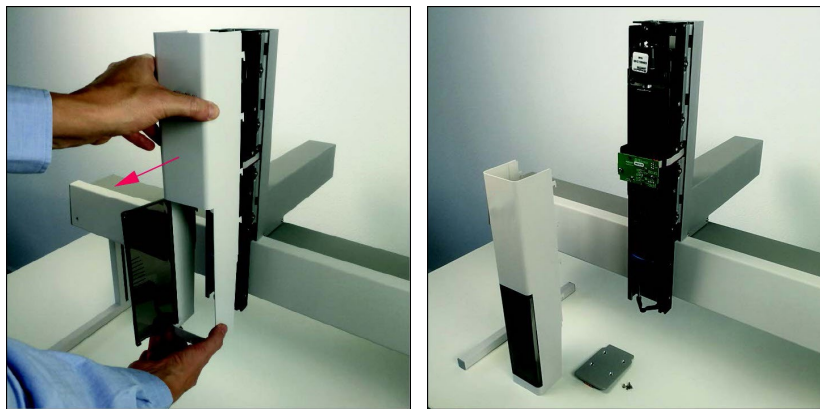

Figure 86: Front Tower Cover Removal 2
5. Gently pull the lower side of the front tower cover outward until the hooking elements become visible and the cover is released. See Figure 86.